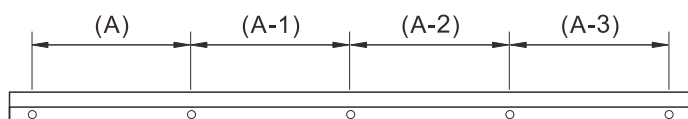

Fig. 1
- 1.2 After selecting the location of the mirror cabinet, check whether the wall is solid, measure the distance of the holes (A, A-1, A-2, A-3) in the aluminum alloy bar with a tape measure and mark it on the wall with a pencil (Fig. 1).